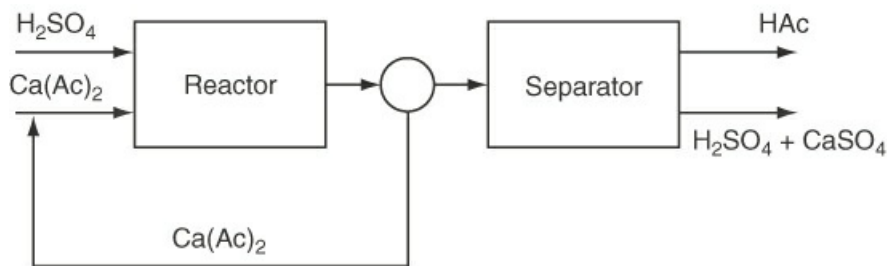

Figure P5.3.10
****5.3.10** Acetic acid (HAc) is to be generated by the addition of 10% excess sulfuric acid to calcium acetate ($\text{Ca}(\text{Ac})_2$). The reaction $\text{Ca}(\text{Ac})_2 + \text{H}_2\text{SO}_4 \rightarrow \text{CaSO}_4 + 2\text{HAc}$ goes to 90% completion based on a single pass through the reactor. The unused $\text{Ca}(\text{Ac})_2$ is separated from the products of the reaction and recycled. The HAc is separated from the remaining products. Find the amount of recycle per hour based on 1000 kg of $\text{Ca}(\text{Ac})_2$ feed per hour, and also calculate the kilograms of HAc manufactured per hour. See Figure P5.3.10, which illustrates the process.